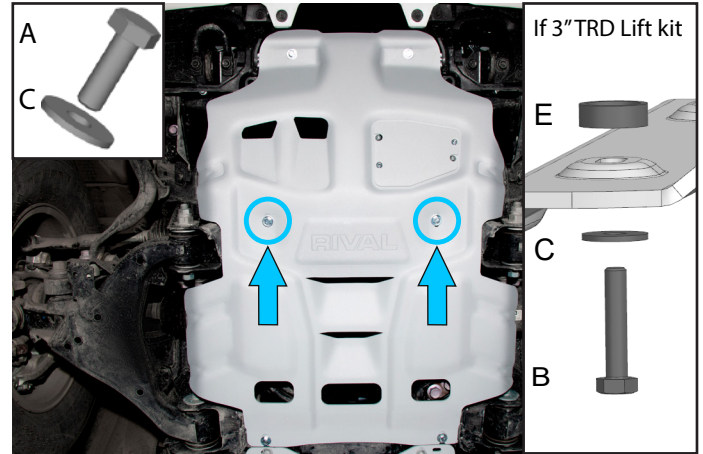

Fig. 5
5. Secure the middle of the engine skid plate using M8x30 bolts with M8 washers (items A,C) as shown in fig.5.